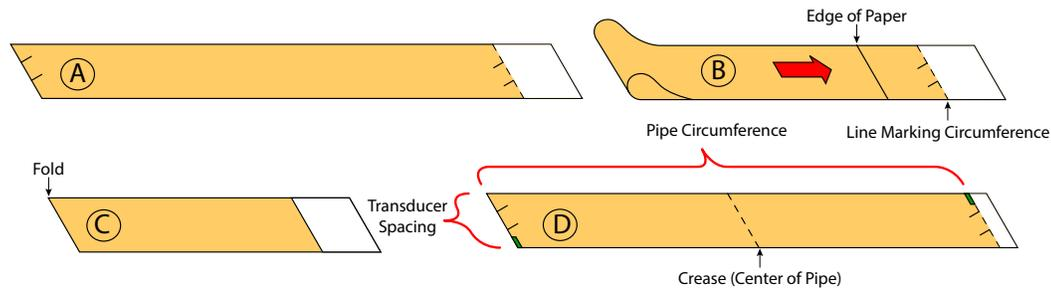

Figure 18: Bisecting the pipe circumference
3. Remove the template and spread it out on a flat surface. See “A” in Figure 18 on page 11.
4. Fold the template in half, bisecting the circumference. See “B” in Figure 18 on page 11.
5. Crease the paper at the fold line. Mark the crease. See “C” in Figure 18 on page 11.